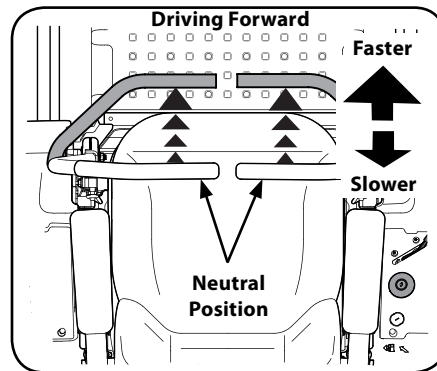

Figure 3-2
1. Slowly and evenly move both drive control levers forward. The tractor will start to move forward. See Figure 3-2.